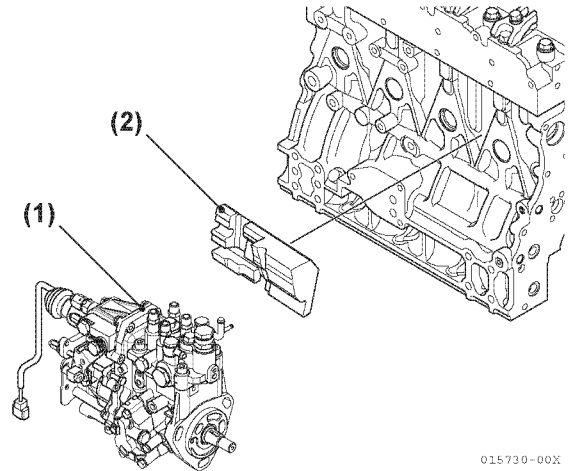

Figure 6-76
12. Verify the fuel injection pump insulator **(Figure 6-76, (2))** is not damaged, if equipped. Reinstall the insulator and intake manifold if previously removed.